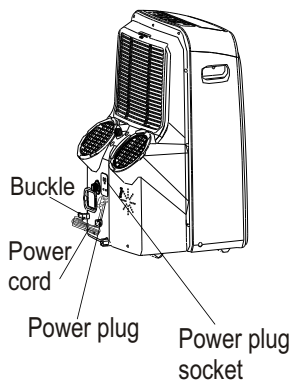

Fig.24
- Stop the appliance and unplug it, wrapped the cord and bundle it with the tape (Fig.24). Remove the batteries from the remote controller.